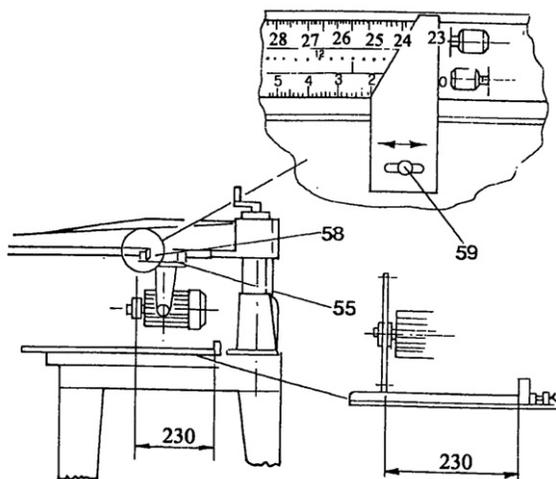

Fig. 25
Position the rods as illustrated in fig. 25. Loosening the lever (55) and keeping the lever (58) pulled (see fig. 25) the FORK-MOTOR unit will be released. Rotate the unit until the blade is in the same position as in fig. 25, towards the outside. Locate the engine power unit so that between the inner edge of the blade and the rod there are 230 mm. Bring the ORANGE index to coincide with position (23) of the upper scale working on the screw (59).